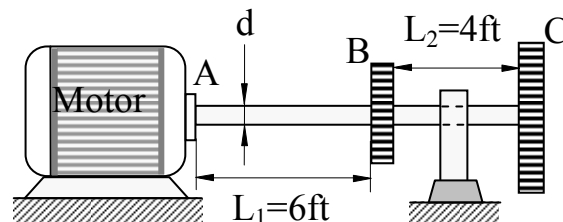

Figure. 3
3. Motor delivers 275hp at 1000rpm to the end of a shaft (see figure 3). The gear B and gear C take out 125hp respectively. (Assume $G=11.5 \times 10^6 \text{psi}$ for the material of the shaft)